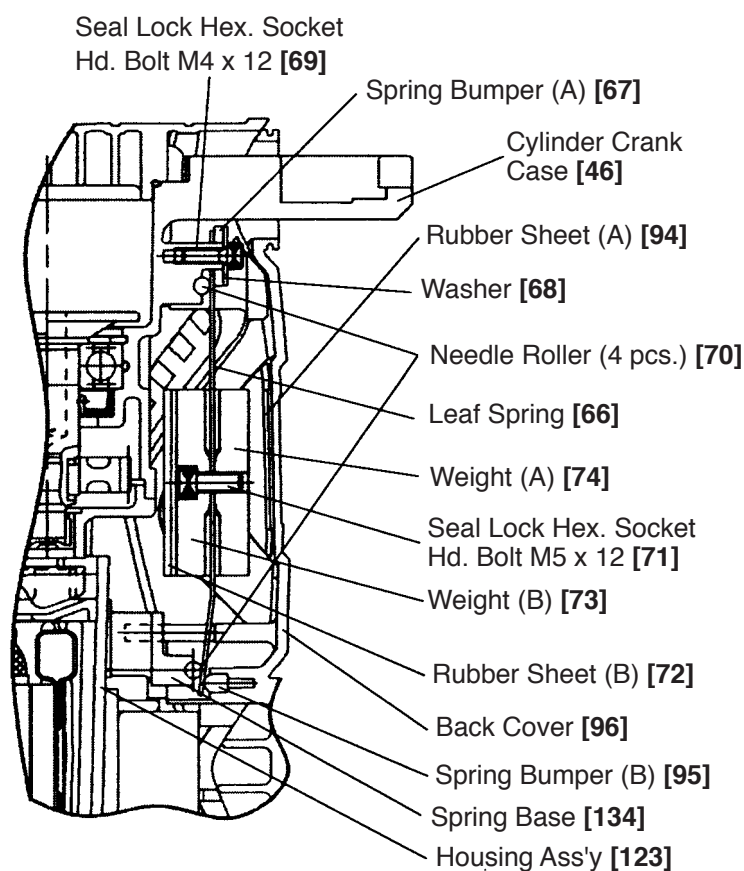

Fig. 29
Mount the Back Cover [96] to the Cylinder Crank Case [46] and the Housing Ass'y [123]. At this time, check that Spring Bumper (B) [95] and Rubber Sheet (A) [94] are adhered and the Needle Rollers [70] are mounted to the Cylinder Crank Case [46] and the Spring Base [134] (Fig. 29).